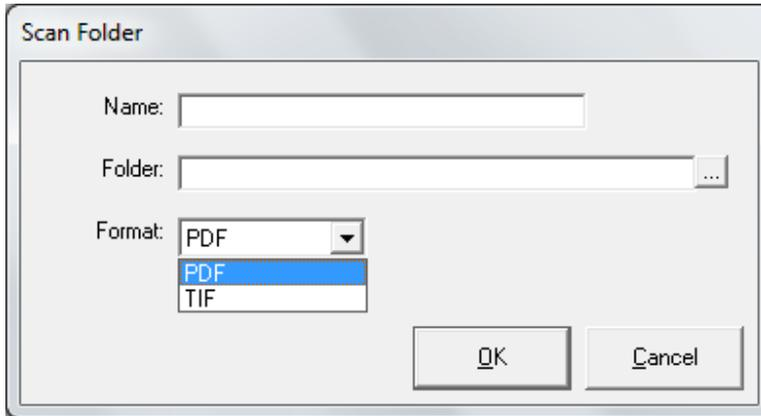

Fig 3-16
1. From the Manage Printers interface and below the Scan Destinations field, click [New] to open Scan Folder (Fig 3-16).